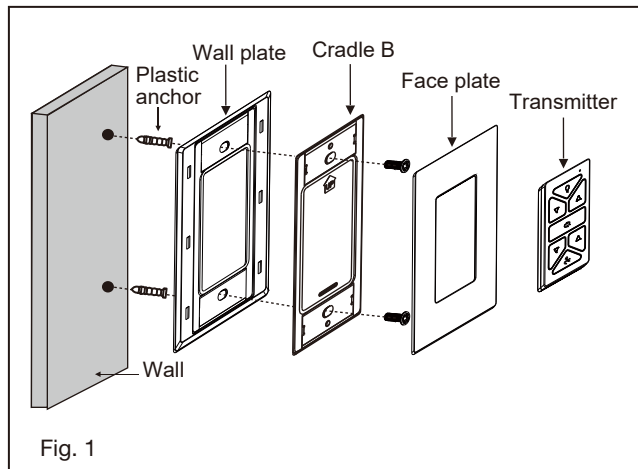

Fig. 1
- 1 Fasten blade to motor with provided screws. Repeat procedure for remaining blades. Make sure screws are **TIGHT** ! Loose motor screws can contribute to unnecessary hum during operation. (Fig. 1)
- 1 Select a desired location. Use the wall plate to mark the location of the mounting holes. Plastic wall anchors or mounting screws are needed for this application. (Fig. 1)